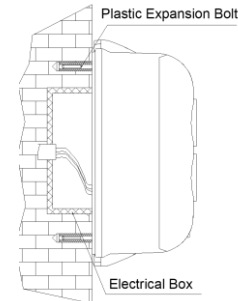

Fig.8
(1) Conduit Embedded
e. The detector base should be fixed to the wall using two plastic expansion bolts and two plain washers. The mounting of the detector is shown in Fig.8